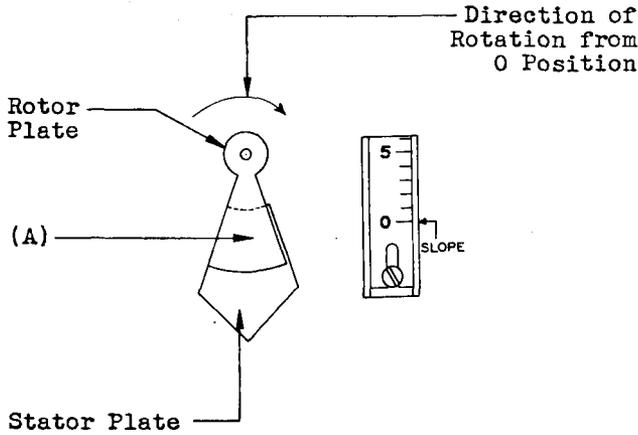

Fig. 7
(1) For 0-100 dial ribbons not having a 28.6 mark: Fig. 7 (A) With the Slope dial at 0, the leading edges of the rotor plates of the Slope condenser shall be in line with the edges of the associated No. 8 stator plates. Gauge by eye.
(2) For 14-86 dial ribbons and 0-100 dial ribbons having a 28.6 mark: With the Slope dial at the 28.6 mark, the leading edges of the rotor plates of the Slope condenser shall be in line with the edges of the associated No. 6 stator plates. Gauge by eye.